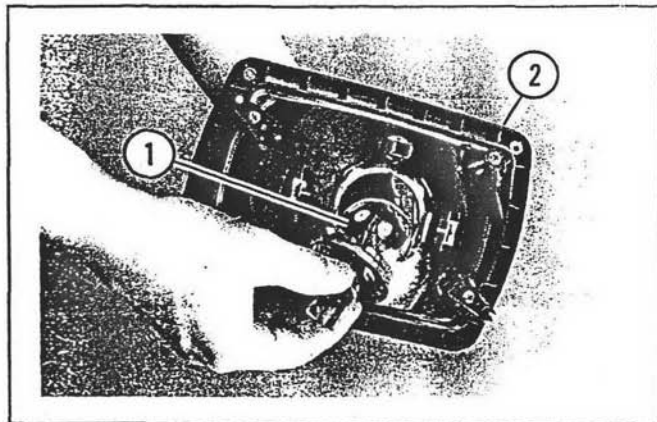

Figure 5-14. Removing Headlamp Bulb
5. See Figure 5-14. Remove headlamp bulb (1) from surround (2).